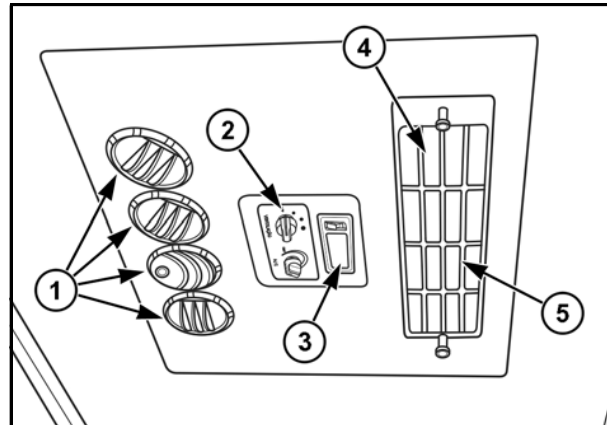

FIG. 69
Screen filter (4) and (5) of cabin air recirculation (Fig. 69)